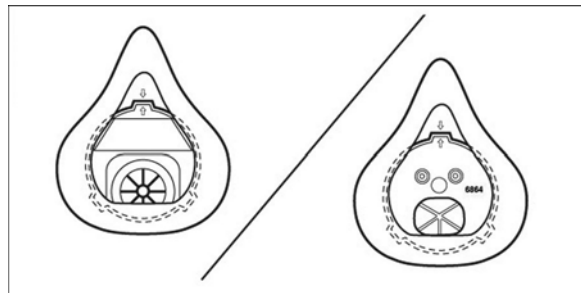

Fig. 2
2. Position nose cup assembly onto center port adapter as shown, aligning 3 tabs in notches. (Fig. 2)